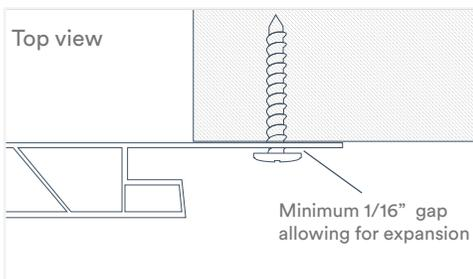

Fig. 1
- Allow a minimum of 1/16" (about the thickness of a dime) between the back of the fastener head and the screw flange (Fig 1)